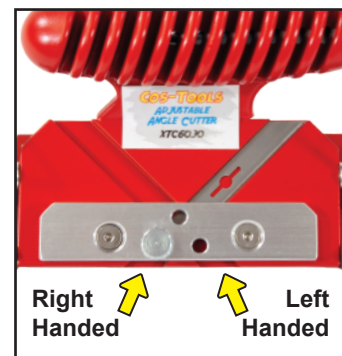

Fig 2
**NOTE:** Left blade channel for left handed use, and right blade channel for right handed use (**Fig. 2**).